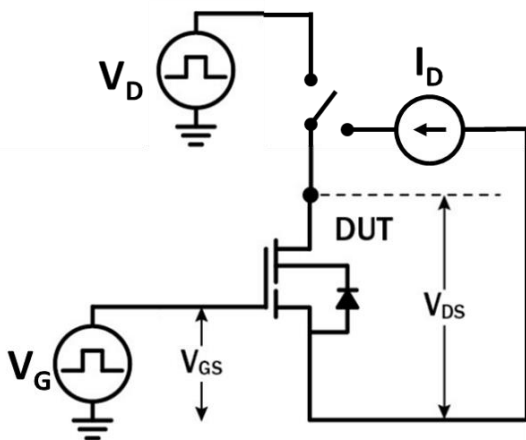

Figure 20. Dynamic $R_{DS(on)eff}$ Test Circuit
f. Dynamic $R_{DS(on)}$, 100% tested; see Figures 20 and 21 for test circuit and conditions